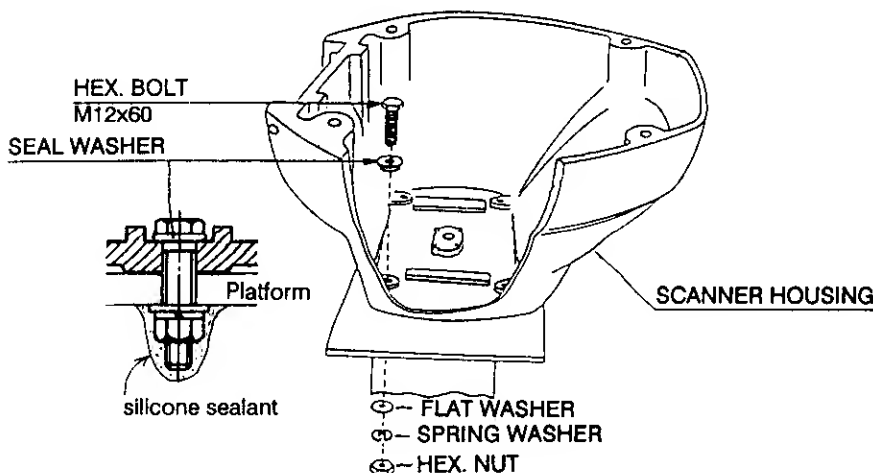

Figure 6-2 Mounting the Scanner Housing
4. Insert the M12 \times 60 hex. bolts with the seal washers from inside the scanner housing so that they will not touch the transceiver module. Before securing housing with washers and nuts coat them with silicone sealant. Then, coat exposed parts of bolts, nuts and washers as shown in Figure 6-2.
2. Be certain to install the seal washer with the larger diameter under the head of the bolt as shown below in Figure 6-2.